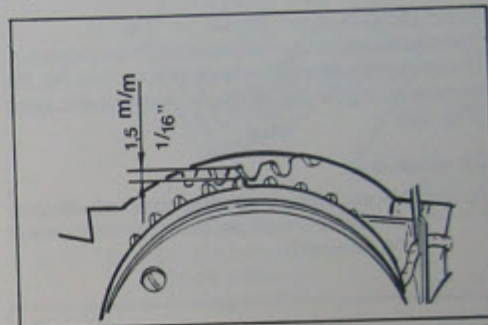

Fig. 34 Distance between the gear and flywheel teeth
- When rope does not recoil check: the spring stop, if this rotates, tighten the centre screw (3). If the centre pin is loose, replace the bracket (11).
- When the gear does not engage, check: the distance between the gear and flywheel teeth should not be greater than 1/16" (see Fig. 34). To adjust, slacken clamp screws and adjust to correct distance, retighten screw; if the brake spring is a loose fit, replace and check the breaking action on the gear.